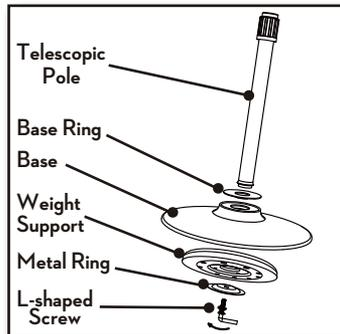

Figure 6
1. Remove the L-shaped screw with the metal ring from the telescopic pole by turning it counter clockwise. Figure 6.